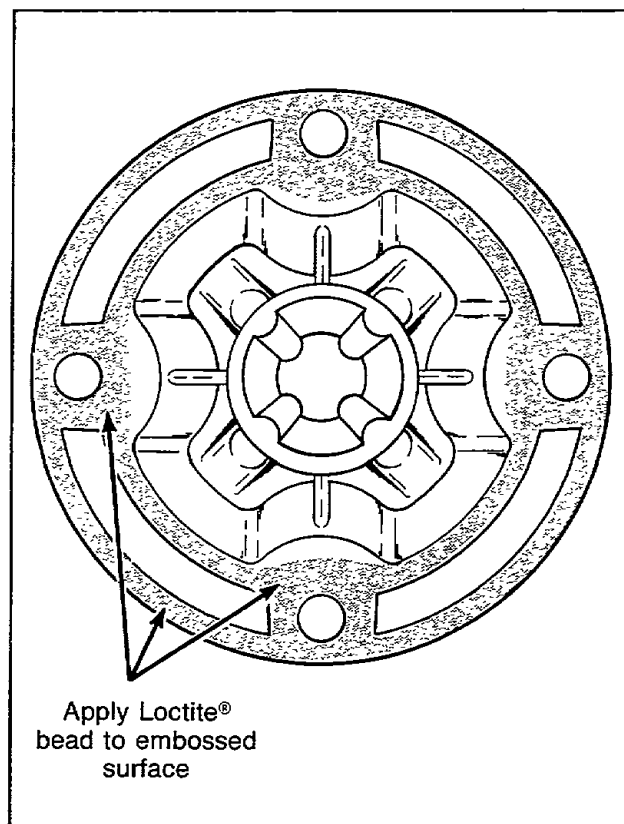

Figure 8
- Be sure all traces of old Loctite® are removed from the hub and agitator post. Apply approximately a 1/16 diameter continuous bead of No. 28434P Loctite® to the embossed surfaces of the agitator post, *Figure 8*.